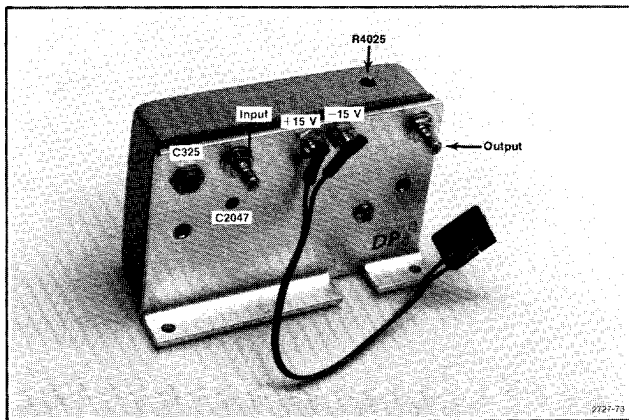

Fig. 4-11. Location of the 110 MHz IF return loss adjustments and IF Gain adjustment.
5. Adjust C2047 and C325 (Fig. 4-11) simultaneously for minimum signal amplitude on the spectrum analyzer display.